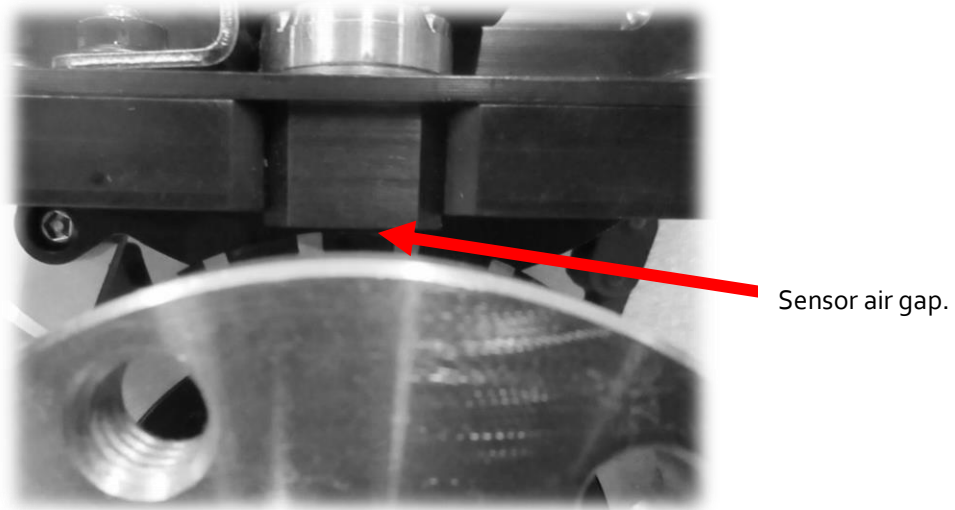

Figure 23
17. Test the air gap again with the yellow feeler gauge. If it passes through, even if slightly tight, that is OK the crank sensor air gap is now set (Figure 23). If it still does not pass through repeat step 16 & 17, adding one shim at a time, until the yellow feeler gauge passes through. What you want to shoot for is light drag on feeler gauge or one shim extra. Don't make it too tight by trying to force the feeler gauge thru.